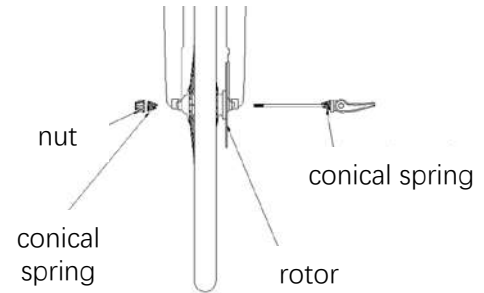

Figure 3.
2. Mount the front wheel on the fork, then insert the quick release lever on the same side as the brake rotor, as shown in Figure 3.